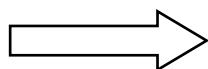

Fig.4
④ Mount the copper bar and assemble the lower section at the direction of arrow (fig. 4)